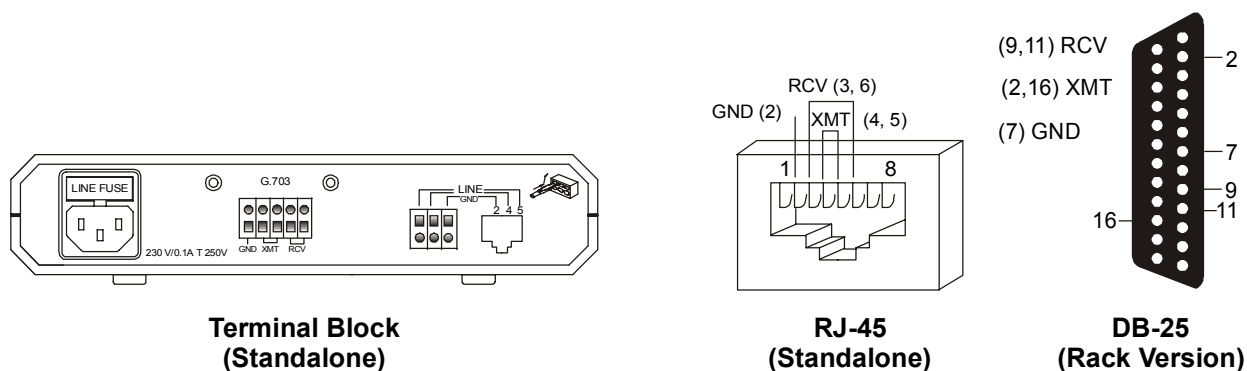

Figure B-1 IR-G.703 Connector Options
- **The Rack version** is mounted on the rack version modem card and uses the modem edge connector for communication. The edge connector is wired, on the motherboard of the card cage, to the DB-25 connector on the back plane of the ASM-MN-214 card cage. *Figure B-1* illustrates the pinout of the different connectors.
In Figure B-1, RCV refers to the input signals to the interface module; XMT refers to the output signals from the module.